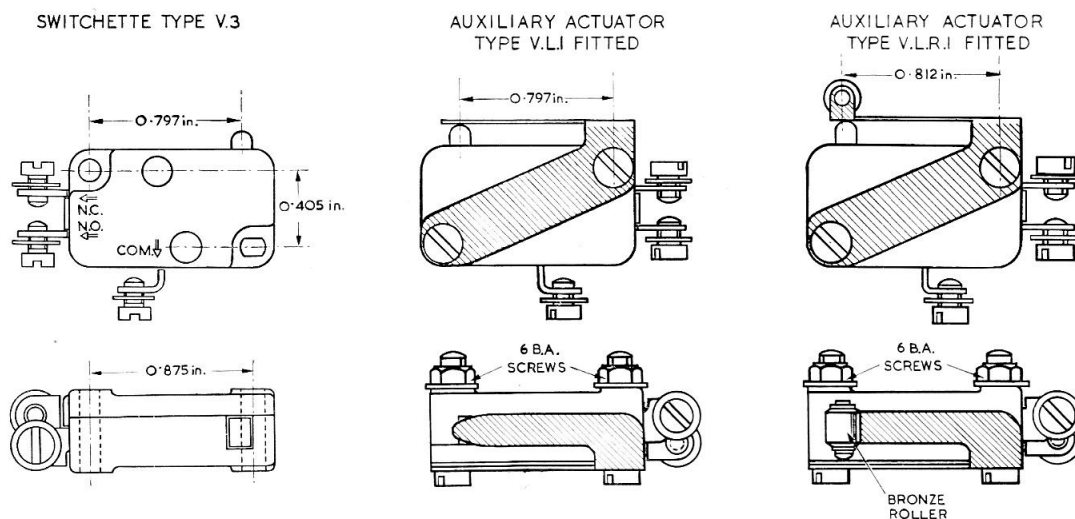

Fig. 2. Switch and actuator installation detail
3. Some switchettes incorporate an actuator, e.g. Type V3 MLR, while others, e.g. Types V3 and V4, can be fitted with auxiliary actuators. These auxiliary actuators, of stainless steel have been designed to enable the switchettes to be operated by cams, slides or other mechanical devices whose direction of movement are not coaxial with that of the switch plunger. The mounting holes of the auxiliary actuators align with those of the switchette. Fig. 2 illustrates auxiliary actuators fitted to a micro switchette, Type V3.